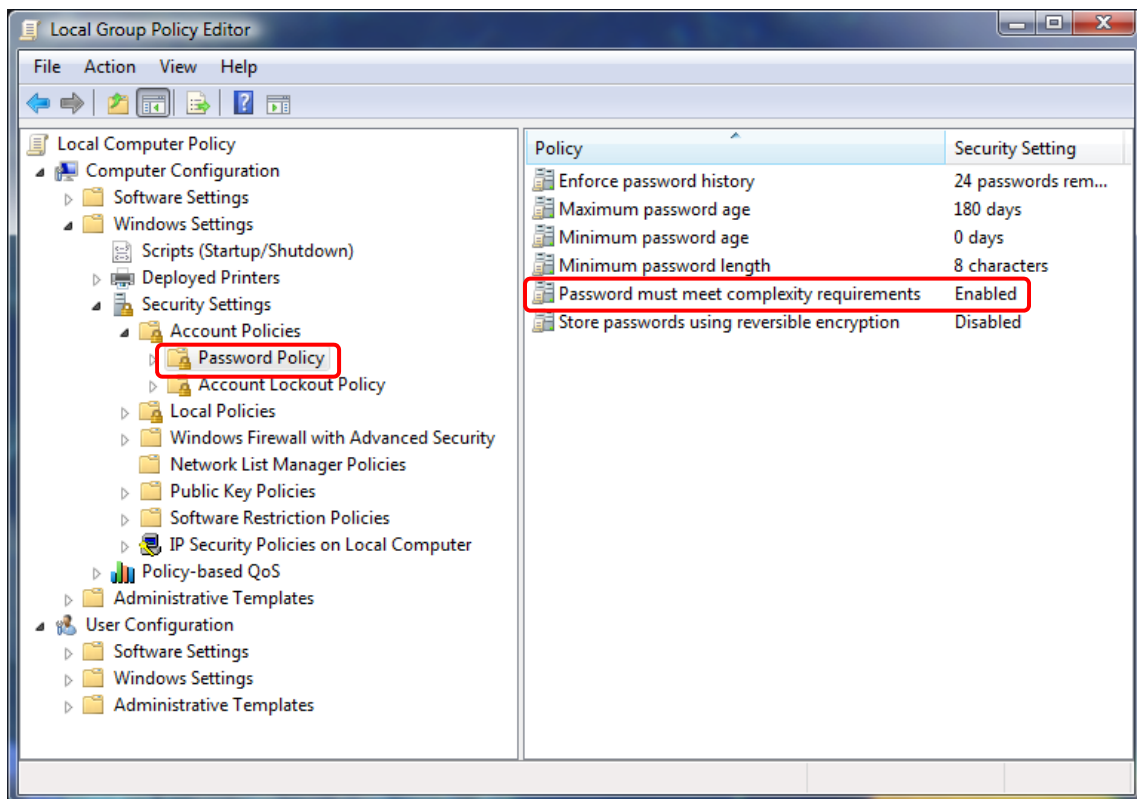

Figure II-7. Local Group Policy Editor Window
The Local Group Policy Editor window will open (Figure II-7).
- 3) Keep clicking on the appropriate nodes in the left pane to expand the folder tree until you see the node **Password Policy**, as shown in Figure II-7.